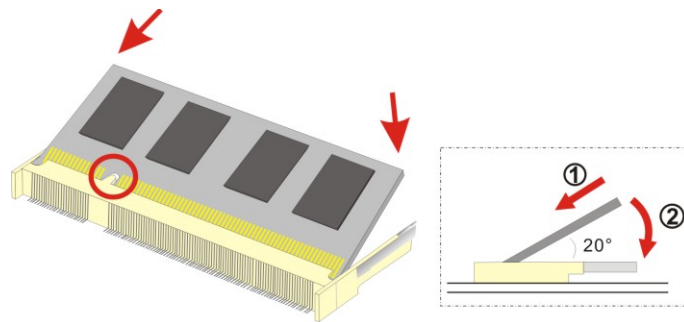

Figure 4-1: SO-DIMM Installation
To install a SO-DIMM into a SO-DIMM socket, please follow the steps below and refer to **Figure 4-1**.
- Step 3:** Insert the **SO-DIMM**. Push the SO-DIMM chip into the socket at an angle. (See **Figure 4-1**)
- Step 4:** Open the **SO-DIMM** socket arms. Gently pull the arms of the SO-DIMM socket out and push the rear of the SO-DIMM down. (See **Figure 4-1**)